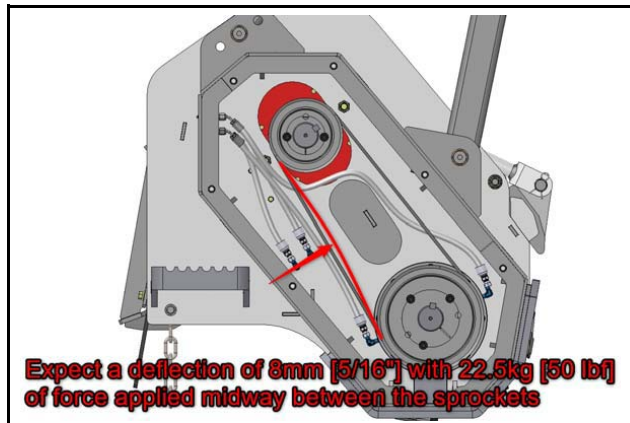

Figure 15
1. Install replacement belt **[Figure 15]**.